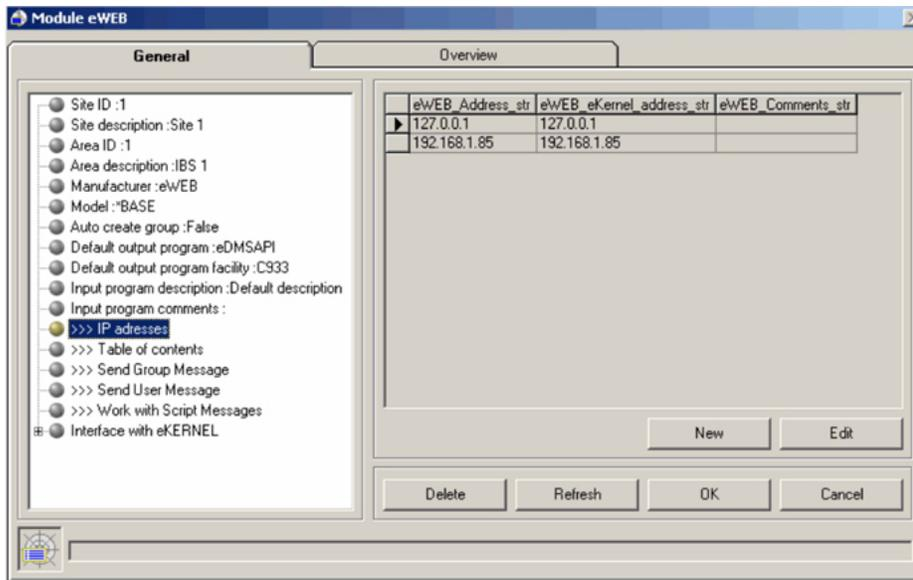

Figure 19: eWEB Properties
- Double-click the eWEB instance to open the parameters/properties. Click **IP addresses**, as shown in Figure 19: eWEB Properties on page 92. The first line in the right pane contains the loop back address (127.0.0.1) of the PC. Do not change this. The second line contains the correct IP addresses.